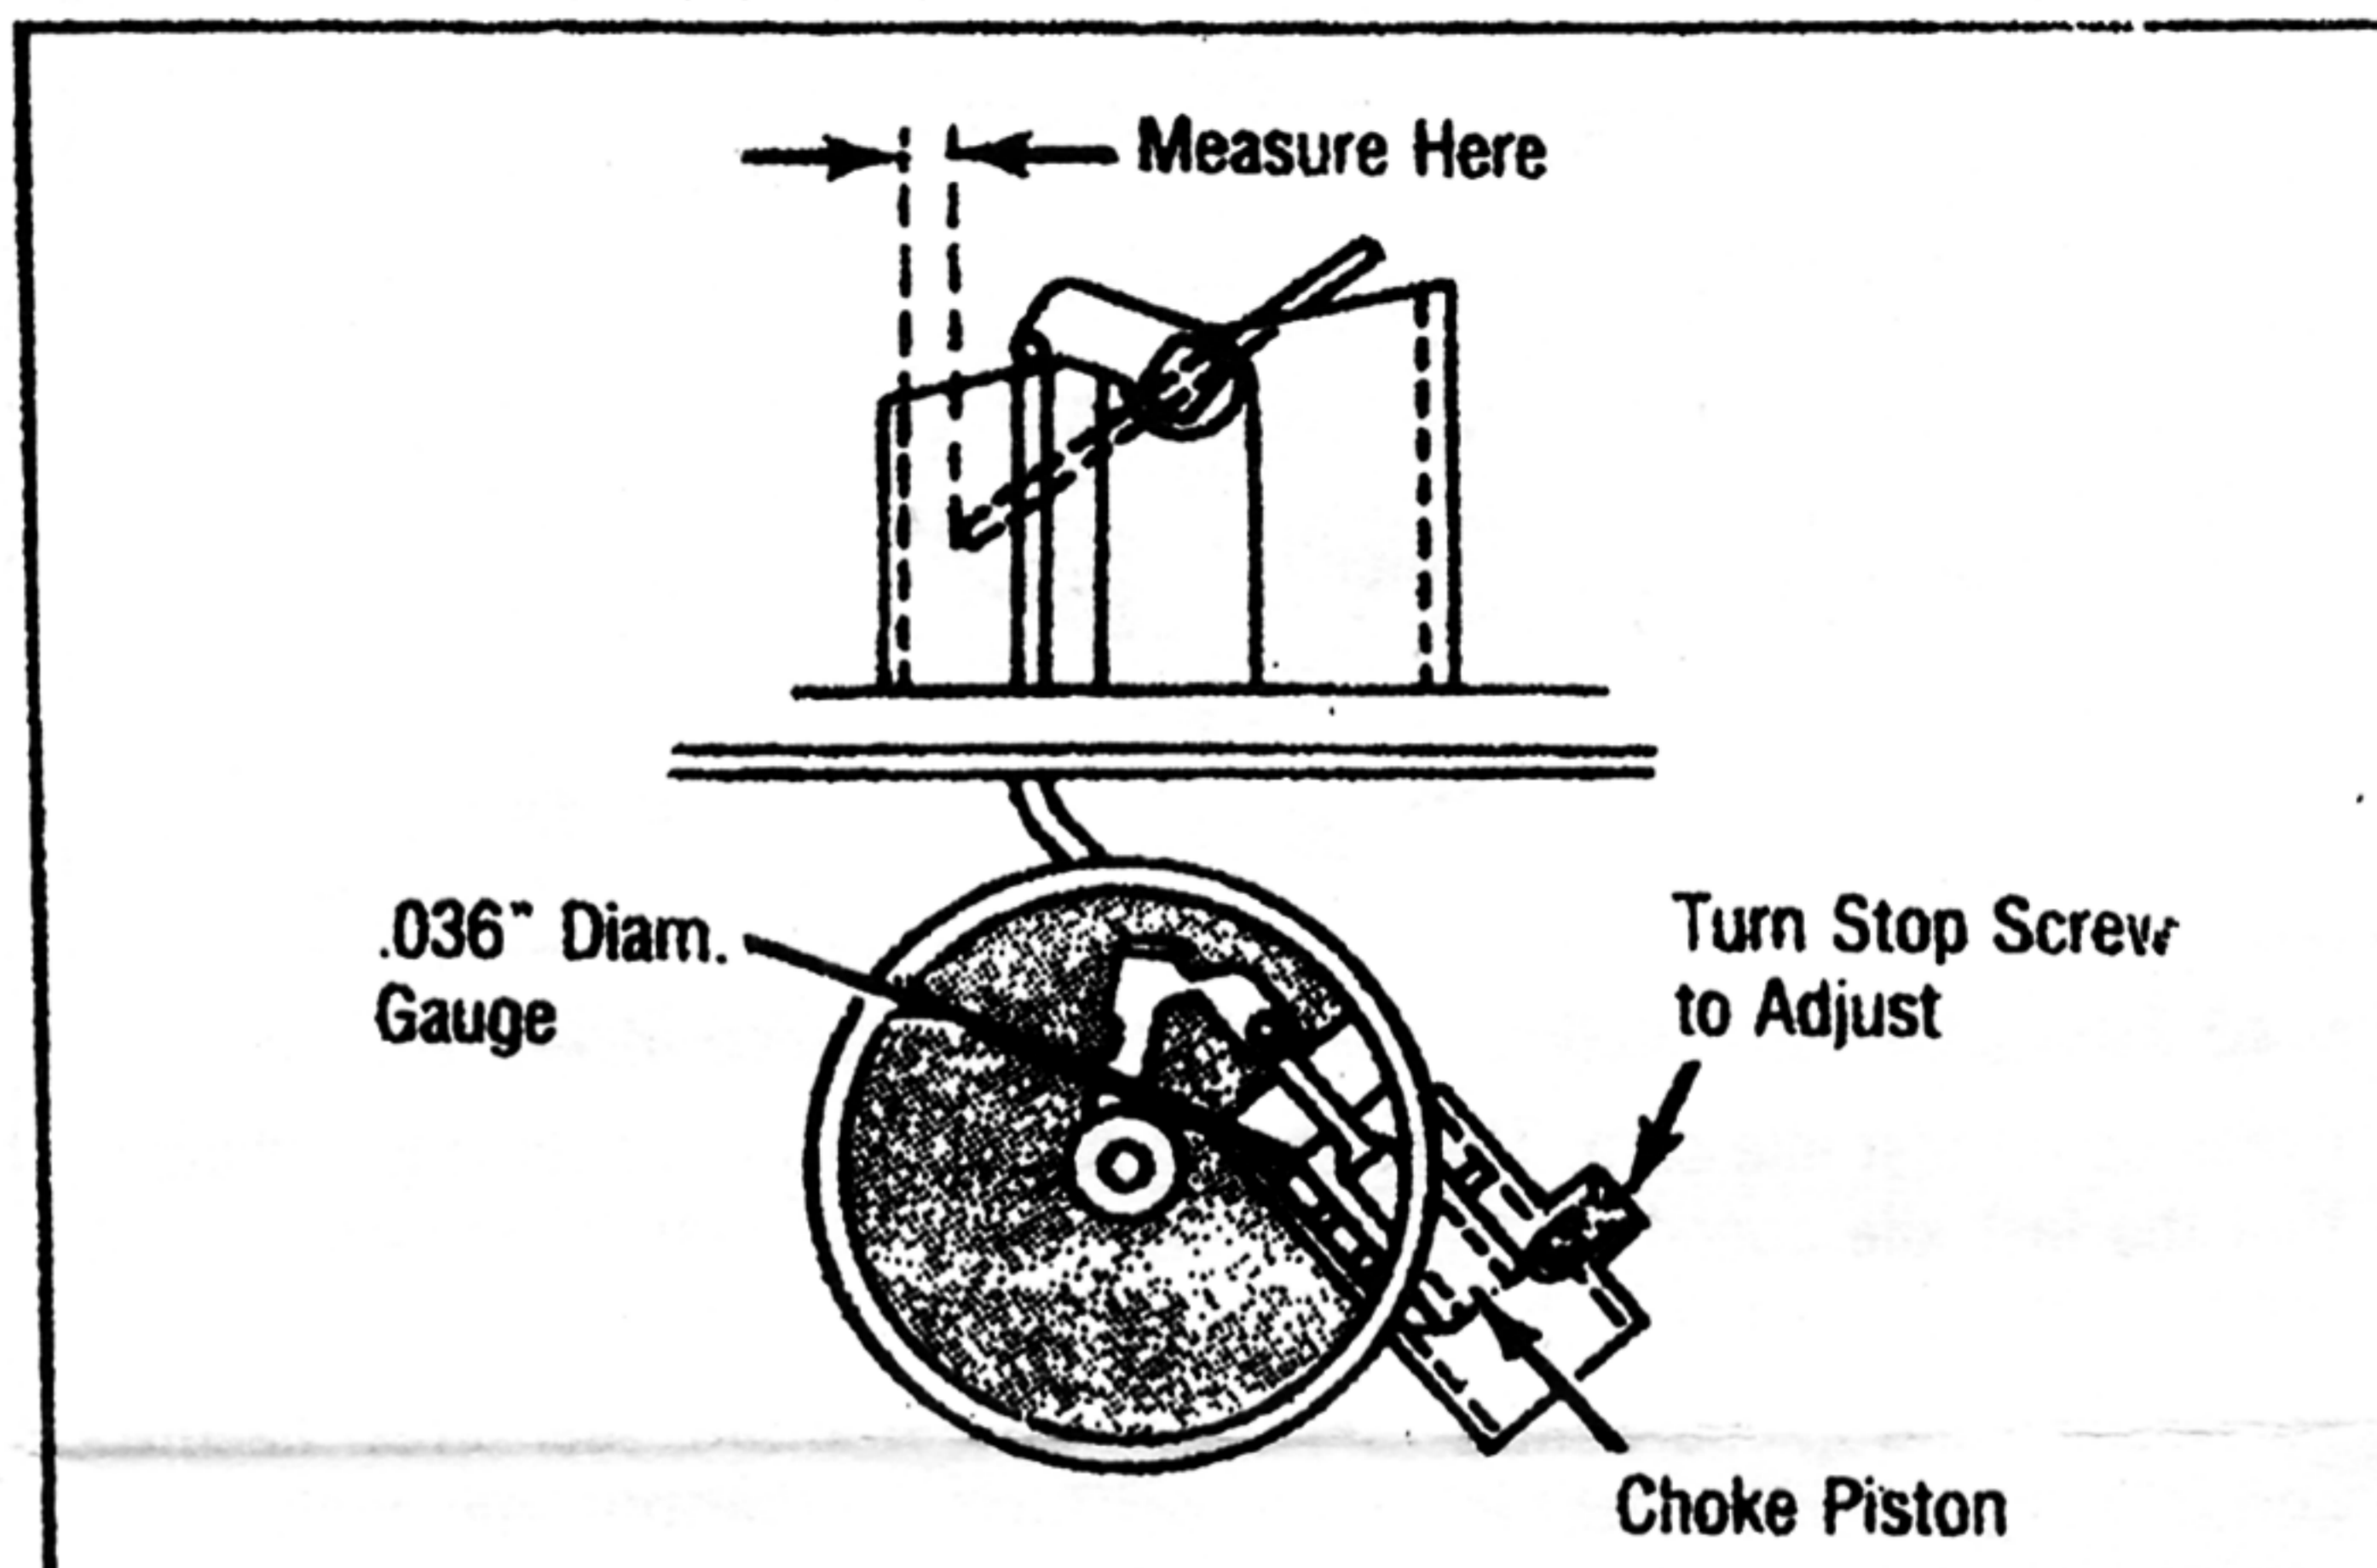

Fig. 11 Choke Pull Down Adjustment (Late Integral Piston Type)
1. With choke coil housing and baffle plate removed, insert a .036" diameter wire gauge (paper clip) into the choke piston bore. This will move choke piston down against stop. See Fig. 11.